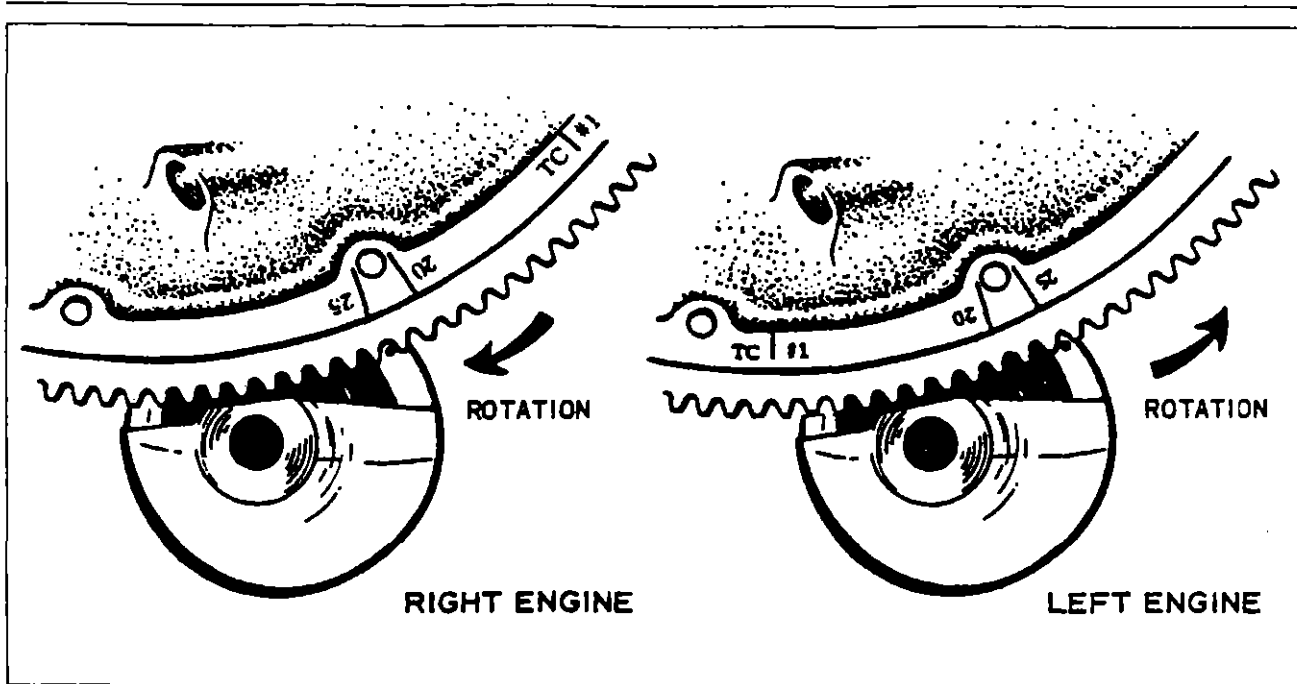

Figure 8-2. Engine Timing Mark
- b. Remove the top spark plug from No. 1 cylinder. Place the thumb of one hand over the spark plug hole and rotate the crankshaft in direction of rotation until the compression stroke is reached. The compression stroke is indicated by a positive pressure inside the cylinder tending to lift the thumb off the spark plug hole. In this position, both valves of No. 1 cylinder are closed. Turn the crankshaft opposite to its direction of rotation until it is approximately 35 degrees BTC on the compression stroke of No. 1 cylinder. Rotate the crankshaft in its direction of rotation until the 25 degrees mark on the back of the starter gear and the crankcase parting surface are aligned, or the marks on the front of the starter ring gear and the drilled hole in the starter housing align. (Refer to Figure 8-2)
- j. Turn the crankshaft very slowly in direction of rotation until the timing mark on the front face of the ring gear aligns with the drilled hole in the starter, as shown in Figure 8-2, or the timing mark on the back of the ring gear aligns with the crankcase parting surface. At this point, the light should go out.